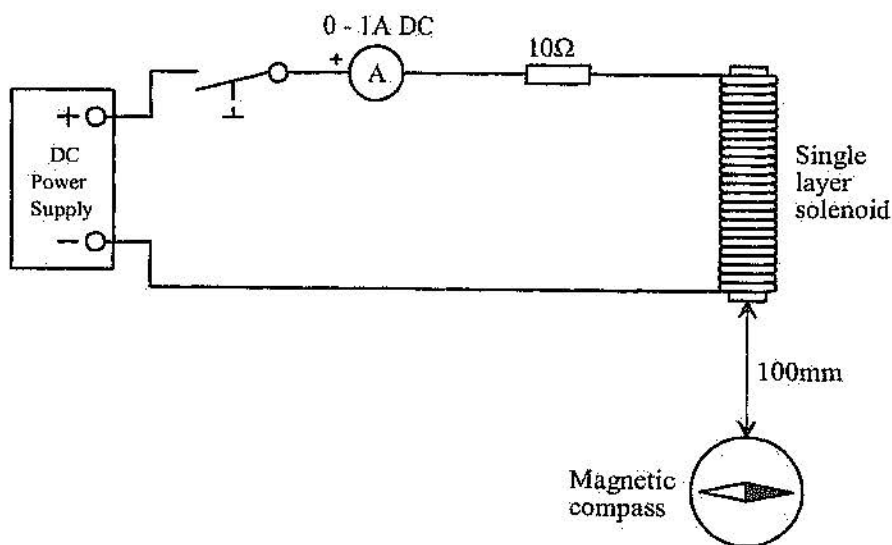

Figure 2
4. Connect the circuit as shown in figure 2. **Note:** Be sure to connect the coil so the start of the coil is positive.